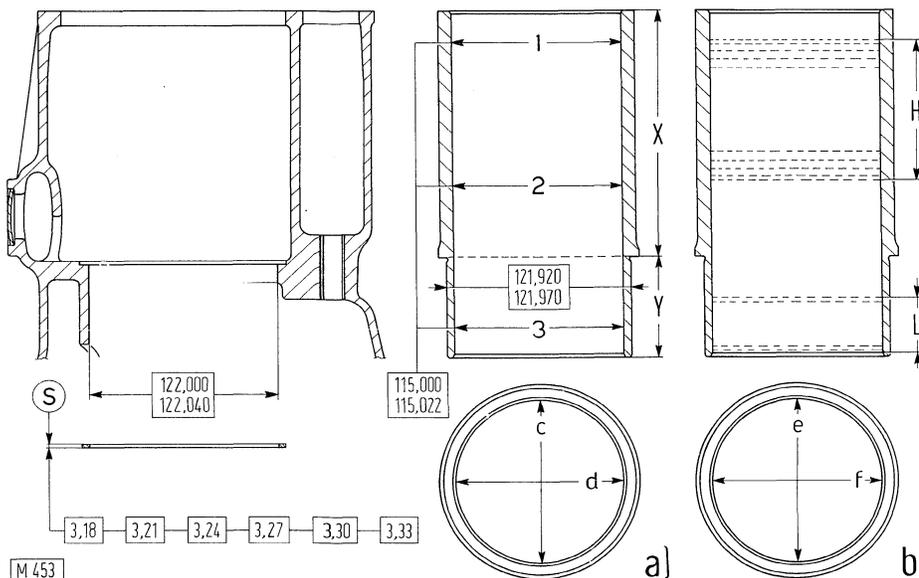

Fig. 2-7 Sleeve and Block dimensions and wear Data
- Check the bore over the working length (H, fig. 2-7) swept by the piston rings
d readings (fig. 2-7) at points 1, 2 and 3 respectively. Out-of round should not exceed .01 mm or .0004 in over X length and .03 mm or .0012 in over Y length. To adjust replacement liner protrusion proceed as follows:
- Insert one sleeve with its shim pack (S, fig. 2-7) of unspecified thickness and press fully home.